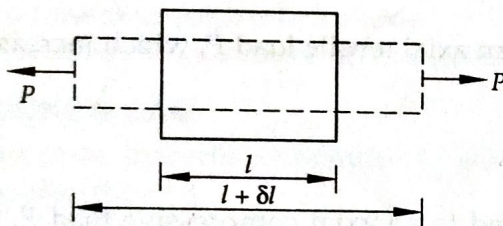

Fig. 2
1. **Tensile strain:** Figure 2 shows a body subjected to an axial tensile load  $P$ , which increases the length of the body from  $l$  to  $l + \delta l$ .